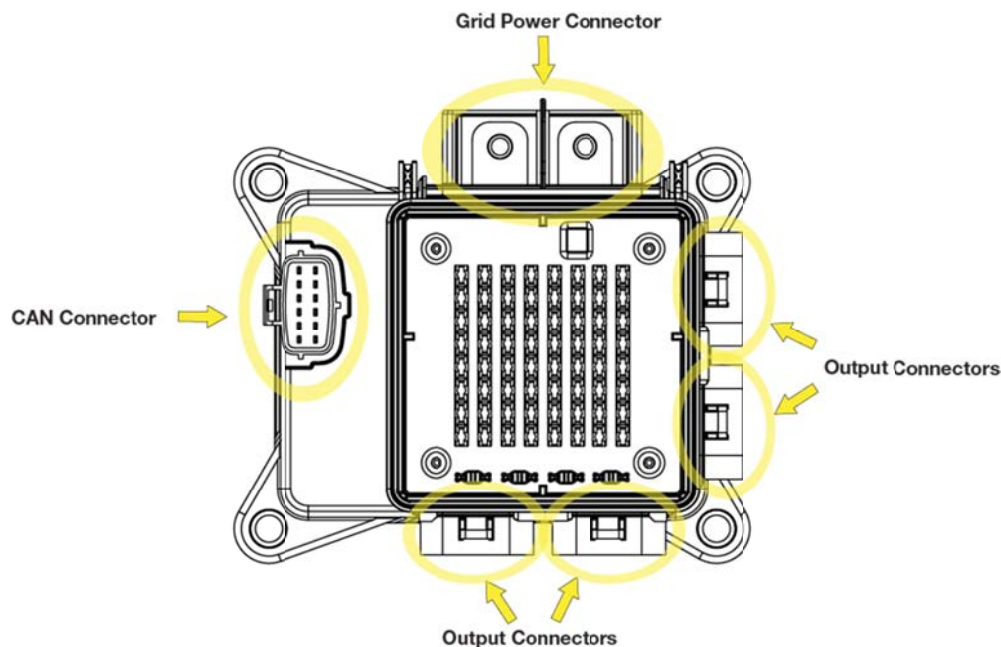

Figure 5. Grid Connector Location Diagram
- You can have up to four different output connectors on your mVEC (refer to Figure 5).